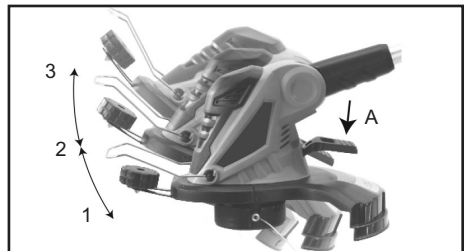

Fig. 12
The motor head can be adjusted to 3 different pre-set angles. Step down on the foot pedal (A) to set the angle, Fig.12